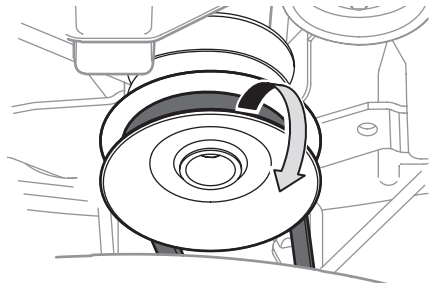

Figure 31
4. Remove the belt from around the riding mower's PTO pulley. See Figure 31.
3. Remove the deck belt from around the riding mower's PTO drive pulley as shown in Figure 31 on page 25. Simply roll one side of the belt off the pulley and then work it off the pulley by continuing around the pulley until the belt is off of the pulley.
9. Feed the deck belt through the belt keeper rod and work it around and onto the PTO drive pulley as shown in Figure 31 on page 25.